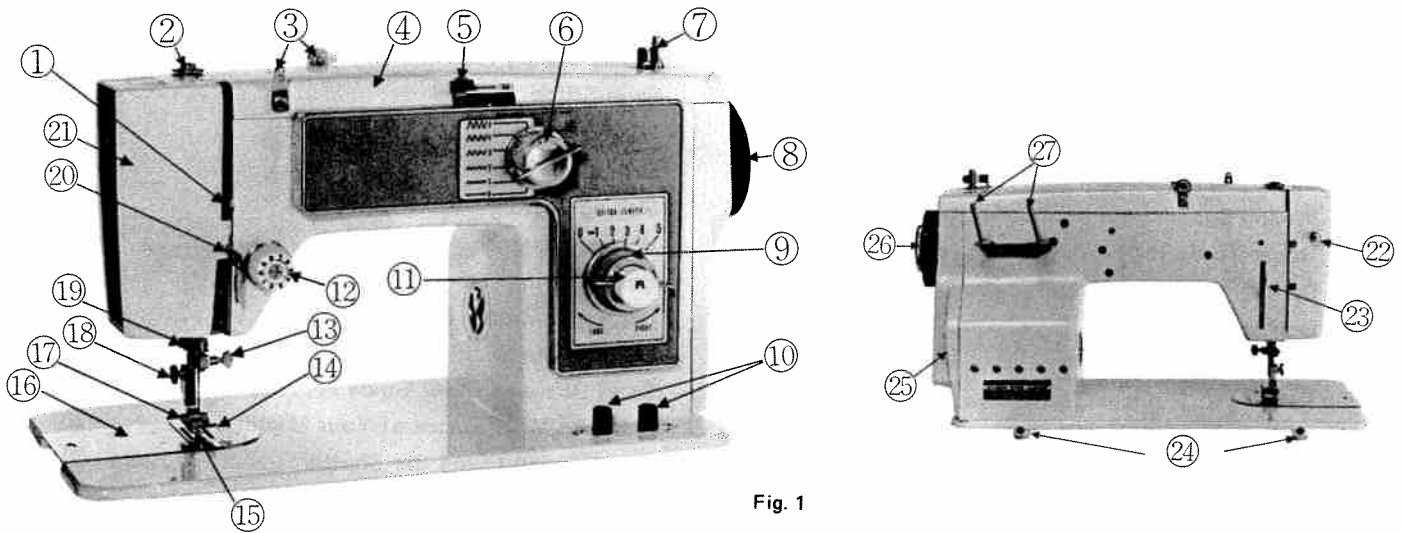
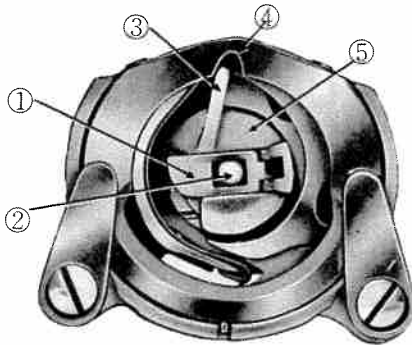

Fig. 1
Fig. 8
Open bobbin case cover plate left of the needle. (See ⑩, Fig. 1) See Fig. 8. Hold the bobbin case latch, ①, between the thumb and forefinger of the left hand, with at least three inches of thread running from the top of the bobbin case to the right. Insert and center the bobbin case on the stud of the shuttle hook ②. Be sure the bobbin case finger, ③, is opposite the shuttle race notch, ④. Press the bobbin case ⑤ into the shuttle as far as possible until latch catches on the center post of the shuttle. THEN release the bobbin case latch, ①. Press bobbin case again after latch has been released to make sure the bobbin case is locked securely in place. Close the cover plate.
The length of the stitch is regulated by the stitch length control dial (⑨, Fig. 1) Near 0 is the shortest stitch and 5 is the longest, but the control dial may be set at any spot between marking for a variety of lengths. Turn the control dial to the right to lengthen and to the left to shorten the stitch.
When you wish to sew backward to tie the threads at the beginning or end of a seam, press in the push button (⑩, Fig. 1) as far as it will go. The machine will sew backward as long as the button is held in.